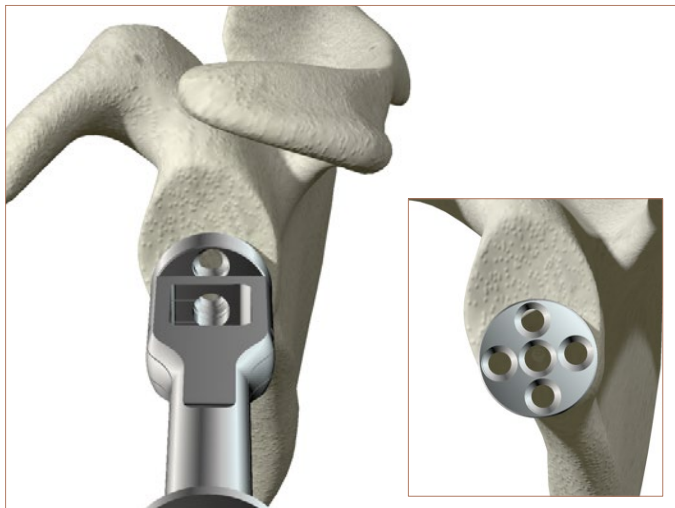

Figure 26
- ▶ Rotate the Glenoid Baseplate so that the inferior screw can be aimed toward the scapular neck. The superior screw should be aimed towards the base of the coracoid process superiorly (long axis of the glenoid bone) or the best available bone stock [Figure 26 inset].